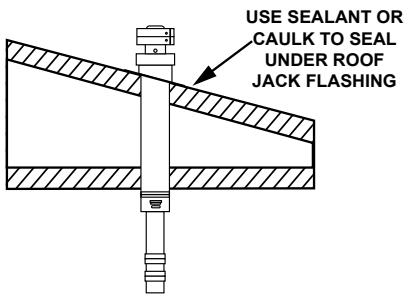

Figure 29: Sealing Roof Jack
- Use sealant or caulk on the roof to seal under flashing of the roof jack assembly. Use roof nails or screws on wood construction or sheet metal screws on metal roofs (nails and screws not provided). See Figure 29.